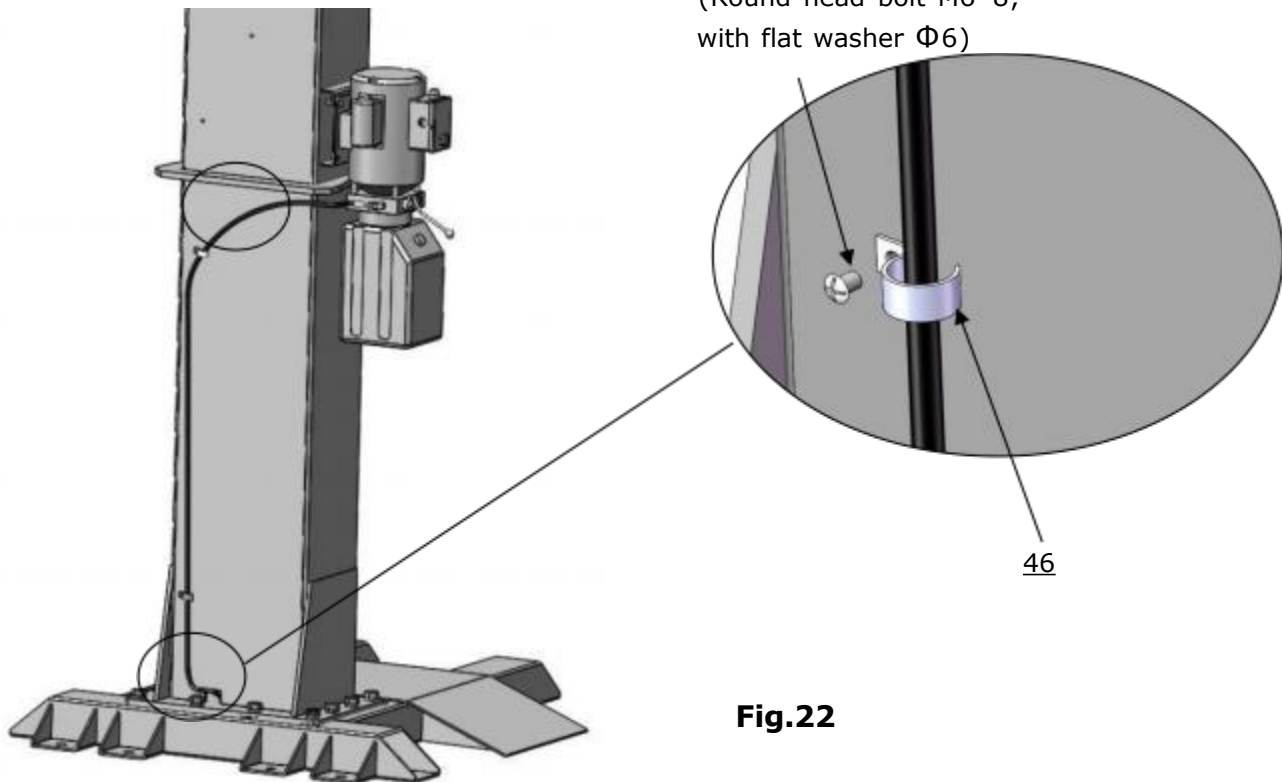

Fig.22
3. Install wire clip. (See Fig.22)